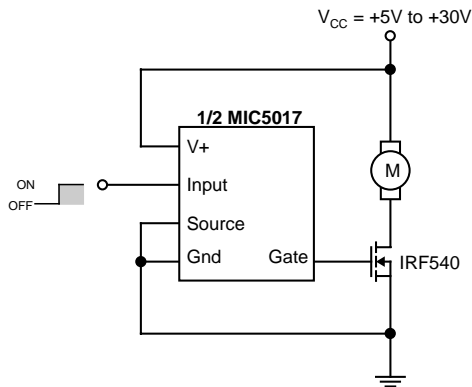

Figure 6: DC Motor Speed Control/Driver
**Variable Supply Low Side Driver for Motor Speed Control** (Figure 6) The internal regulation in the MIC5016/17 allows a steady gate enhancement to be supplied while the MIC5016/17 supply varies from 5V to 30V, without damaging the internal gate to source zener clamp. This allows the speed of the DC motor shown to be varied by varying the supply voltage.